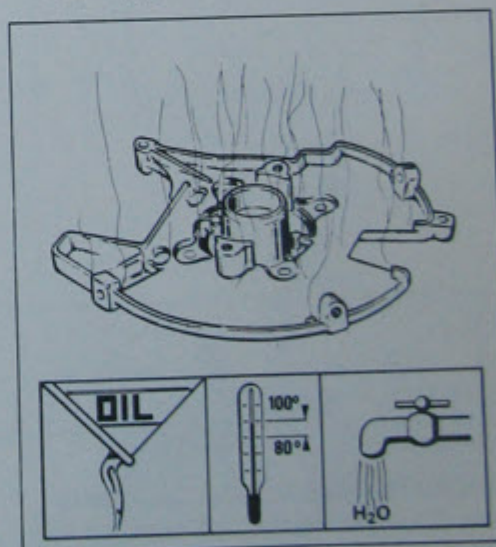

Fig. 55 Air shroud base heating
- Heat the air-shroud base by immersing in oil or water at a temperature of about 80° - 100°C (Fig. 55).